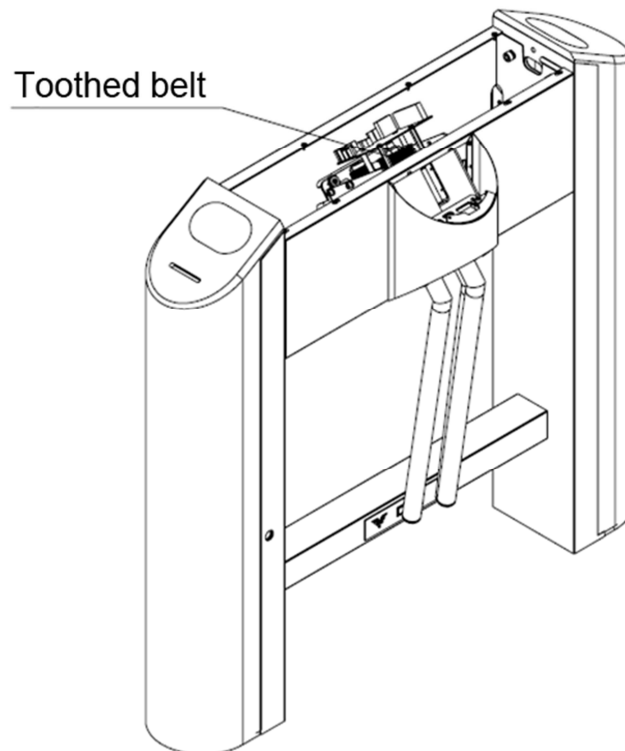

Fig. 8
4.4. Check the condition of the toothed belt and its tension (Fig. 8).